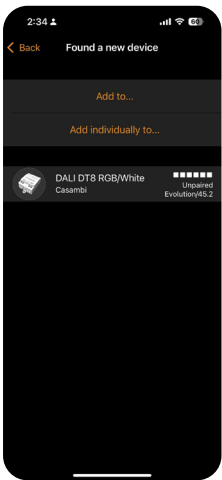

FIG. 33
4. Launch the Casambi app. The app will display a notification "**Found a new device**" when it detects the CBU-ASD-LR dimmer (Fig. 33).